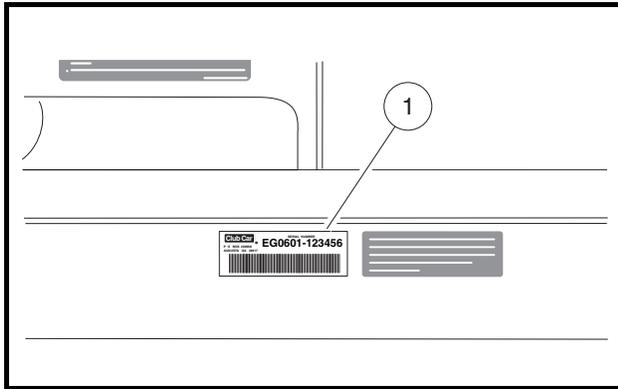

Figure 3 Serial Number Decal
The serial number of the vehicle is printed on a bar code decal (1) mounted on the frame directly above the accelerator pedal (Example: EG0601-123456) **(Figure 3)**. There is also a second serial number decal mounted on the front body frame behind the center dash panel. The center dash panel must be removed to view this decal. **See following NOTE.**